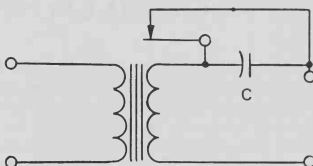

Fig. 18-30. Schematic diagram of the induction coil circuit.
7. Wiring instructions can be found by tracing the schematic drawing in Fig. 18-30.
6. Ask your teacher to show you an automotive ignition coil. Ask her or him to show you the breaker points in a distributor. Draw a diagram of an automotive ignition system, using only one spark plug. Compare your drawing to the diagram shown in Fig. 18-30.